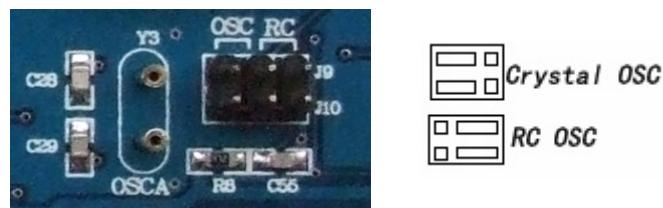

Figure 5-4 DIP40/28/PIC16F57 clock selection
- 4) DIP40/28/PIC16F57 clock selection. As shown in Figure 5-4